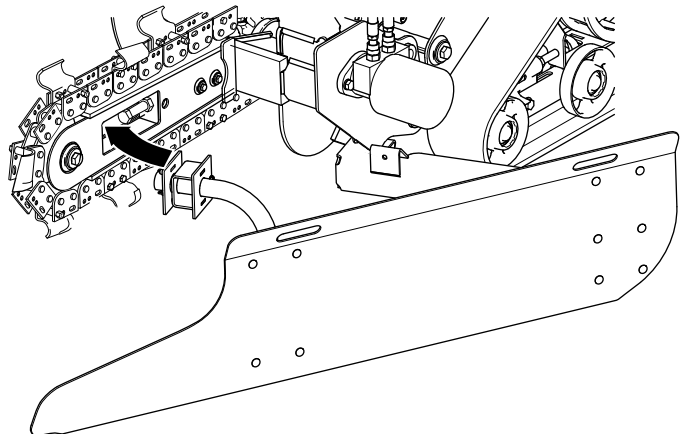

Figure 5
4. Swing the blade to the right, inserting the front mounting bracket into the opening in the boom (Figure 5).